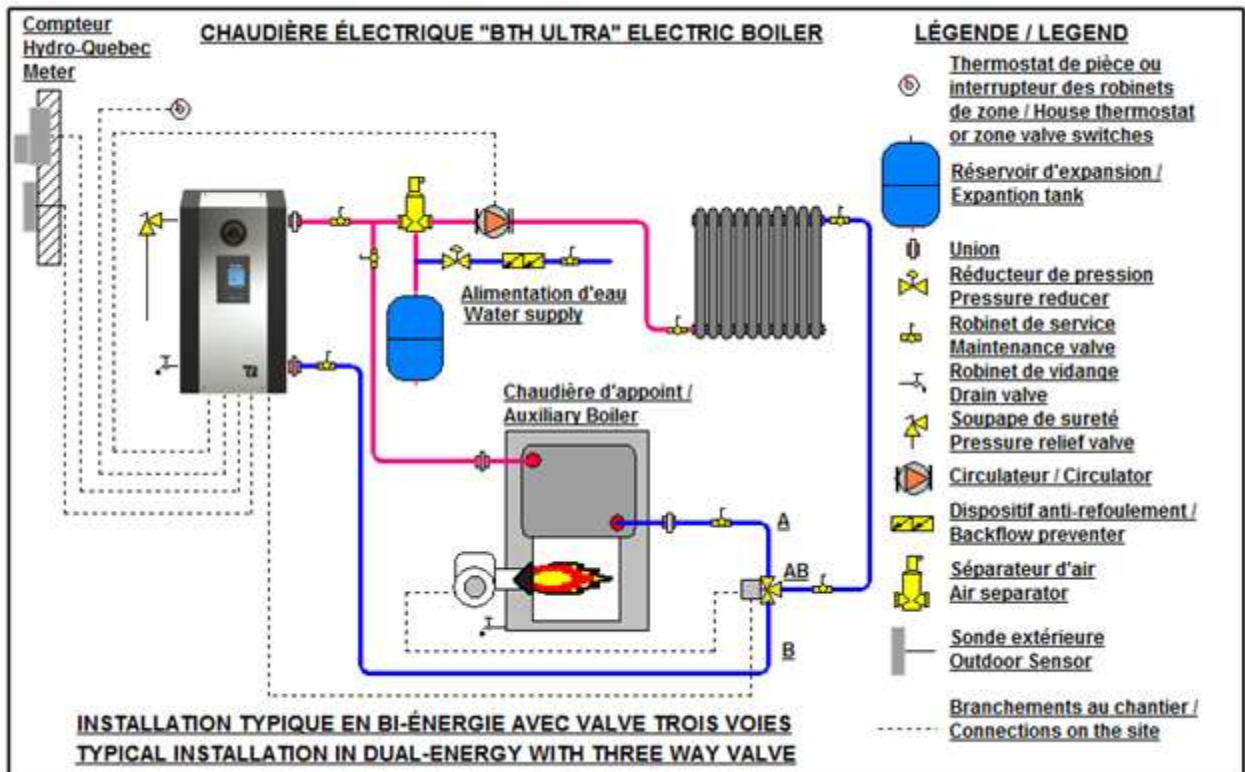

Figure 9 : Typical installation with three way valve
N.B.: Make sure to select the appropriate port A, B and AB when making the connection of the piping (see fig.9)